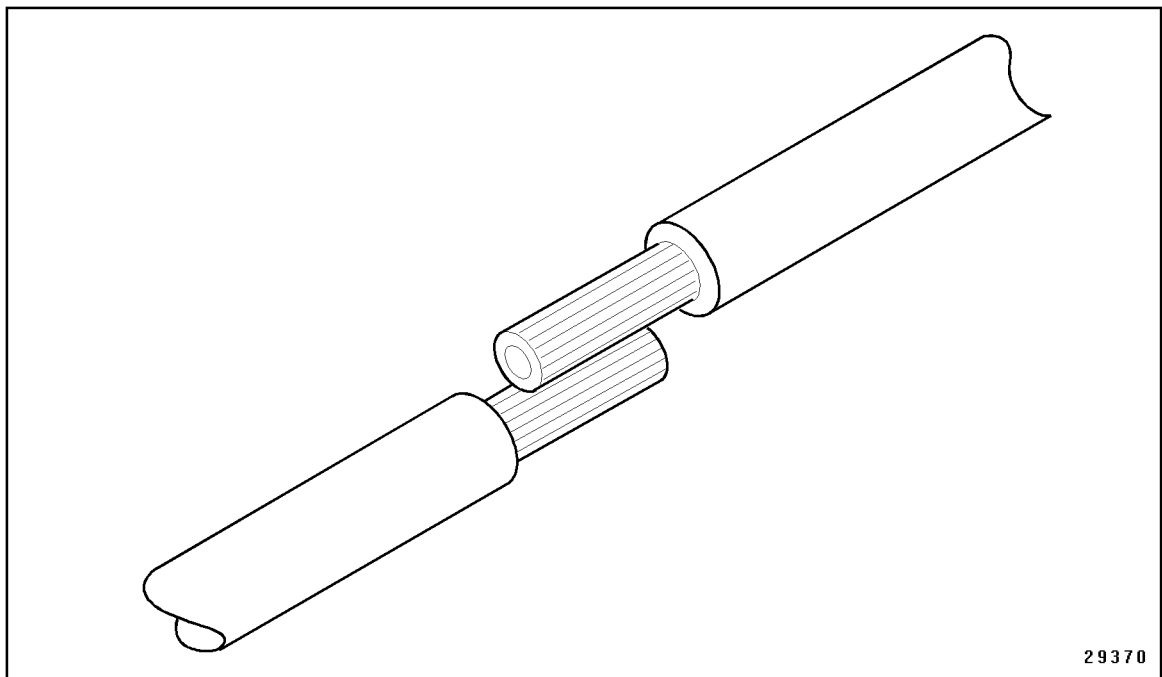

Figure 8-30 Positioning the Leads
1. Position the leads so one overlaps the other. See Figure 8-30.